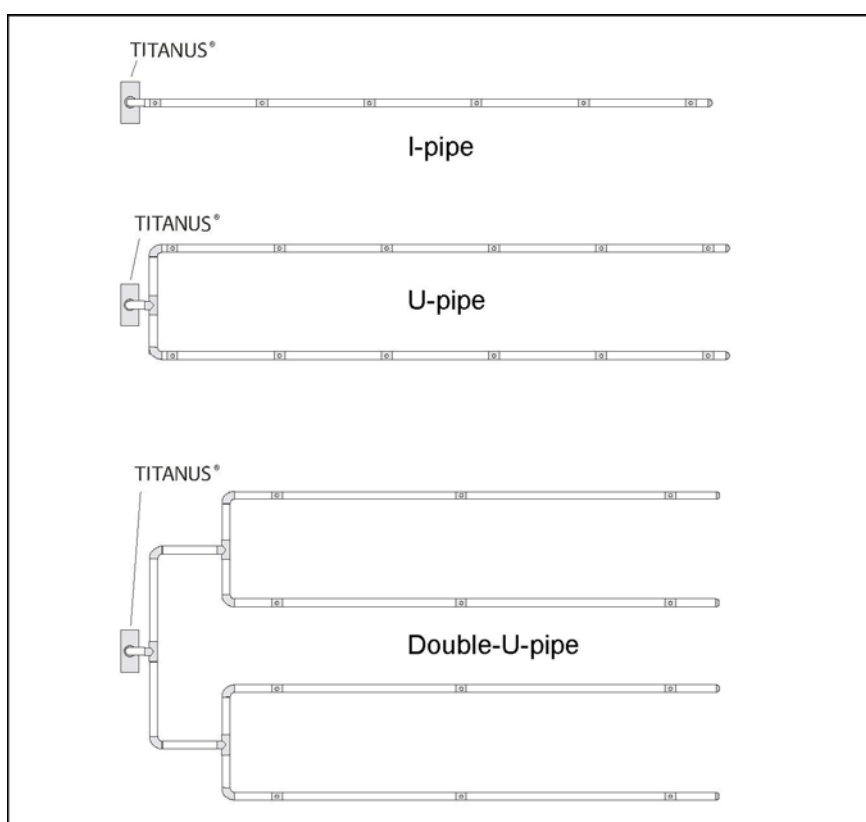

Fig. 4.2: Pipe configurations
**Pipe configurations** Depending on the geometry of the room, 3 pipe configurations can be selected (see Fig. 4.2):